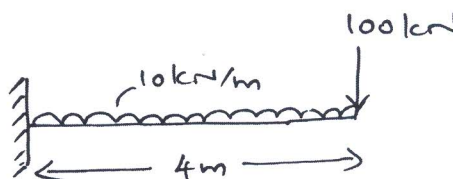

Fig Q5(b)
- b. Determine the maximum deflection in the uniform C/S of the cantilever beam as shown in Fig Q5(b). Consider the beam is treated as single finite element. Take  $E = 70 \times 10^9 \text{N/m}^2$ ,  $I = 4 \times 10^4 \text{m}^4$ .